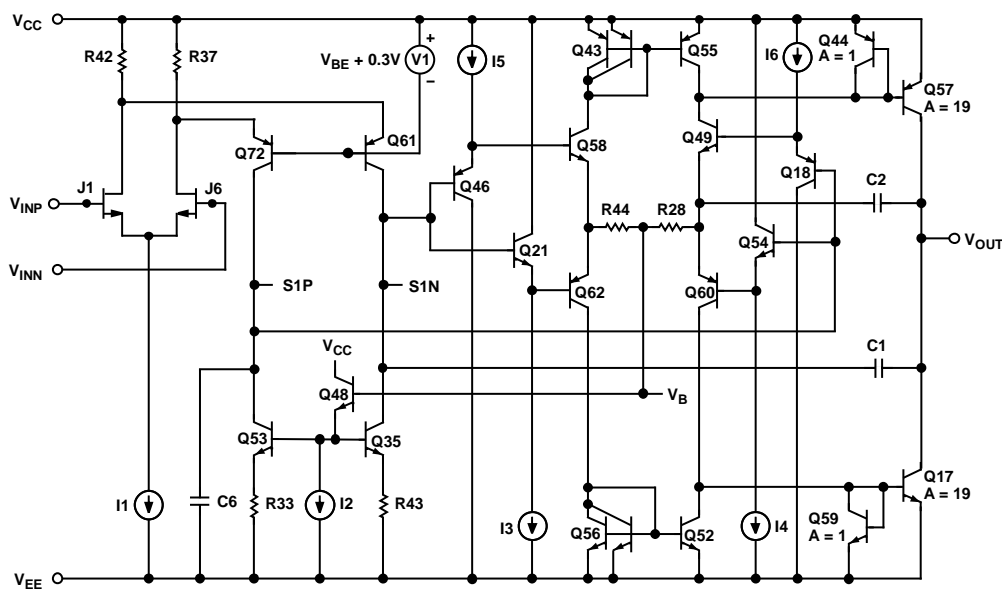

Figure 36. Simplified Schematic
The AD823 is fabricated on the Analog Devices, Inc. proprietary complementary bipolar (CB) process that enables the construction of PNP and NPN transistors with similar f_T 's in the 600 MHz to 800 MHz region. In addition, the process also features N-Channel JFETs that are used in the input stage of the AD823. These process features allow the construction of high frequency, low distortion op amps with picoamp input currents. This design uses a differential output input stage to maximize bandwidth and headroom (see Figure 36). The smaller signal swings required on the S1P/S1N outputs reduce the effect of the nonlinear currents due to junction capacitances and improve the distortion performance. With this design, harmonic distortion of better than -91 dB @ 20 kHz into $600\ \Omega$ with $V_{OUT} = 4$ V p-p on a single 5 V supply is achieved. The complementary common emitter design of the output stage provides excellent load drive without the need for emitter followers, thereby improving the output range of the device considerably with respect to conventional op amps. The AD823 can drive 20 mA with the outputs within 0.6 V of the supply rails. The AD823 also offers outstanding precision for a high speed op amp. Input offset voltages of 1 mV maximum and offset drift of $2\ \mu\text{V}/^\circ\text{C}$ are achieved through the use of the Analog Devices advanced thin film trimming techniques.